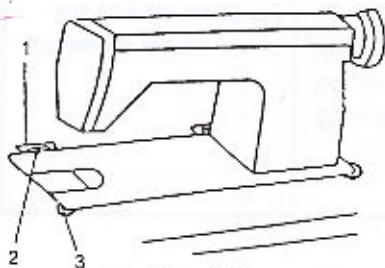

Figure 2
(2) Installation of machine Head (see Figure 2)